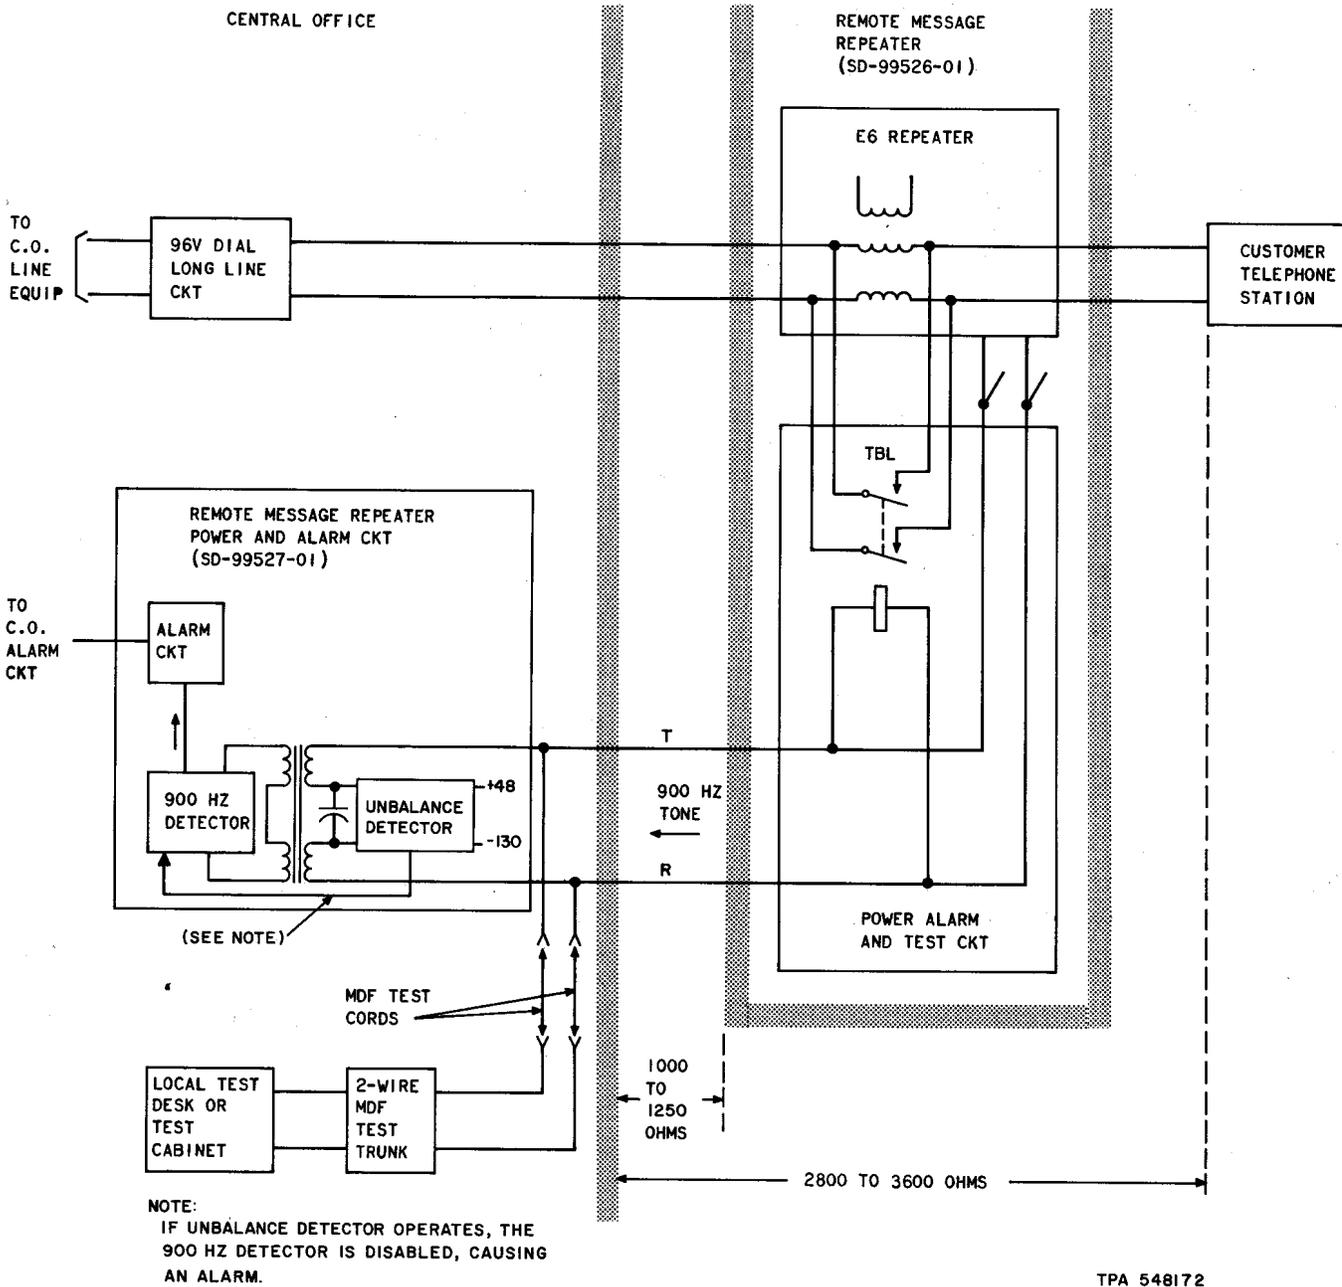

Fig. 14—Arrangement for Testing Power Pair for Remote Message Repeaters
- (c) Add Fig. 14.
- (c) Fig. 14—added.
◆ TESTING POWER PAIR TO REMOTE REPEATER (Fig. 14)